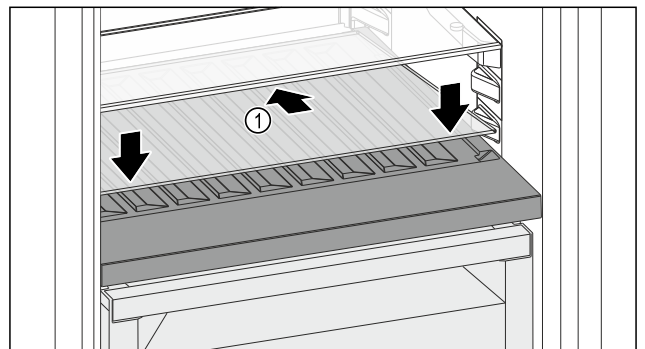

Fig. 129
- Place the glass shelf Fig. 129 (1) at an angle, sloping it downwards and backwards.
- Lower the glass shelf Fig. 129 (1) at the front.